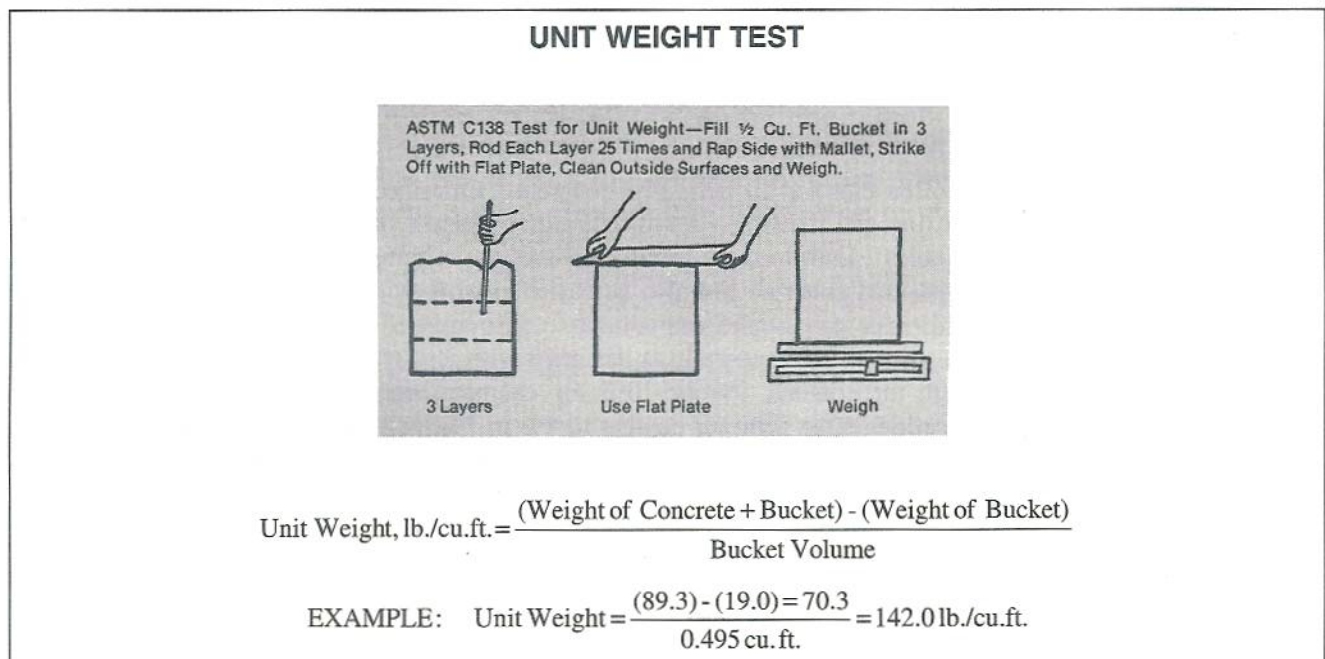
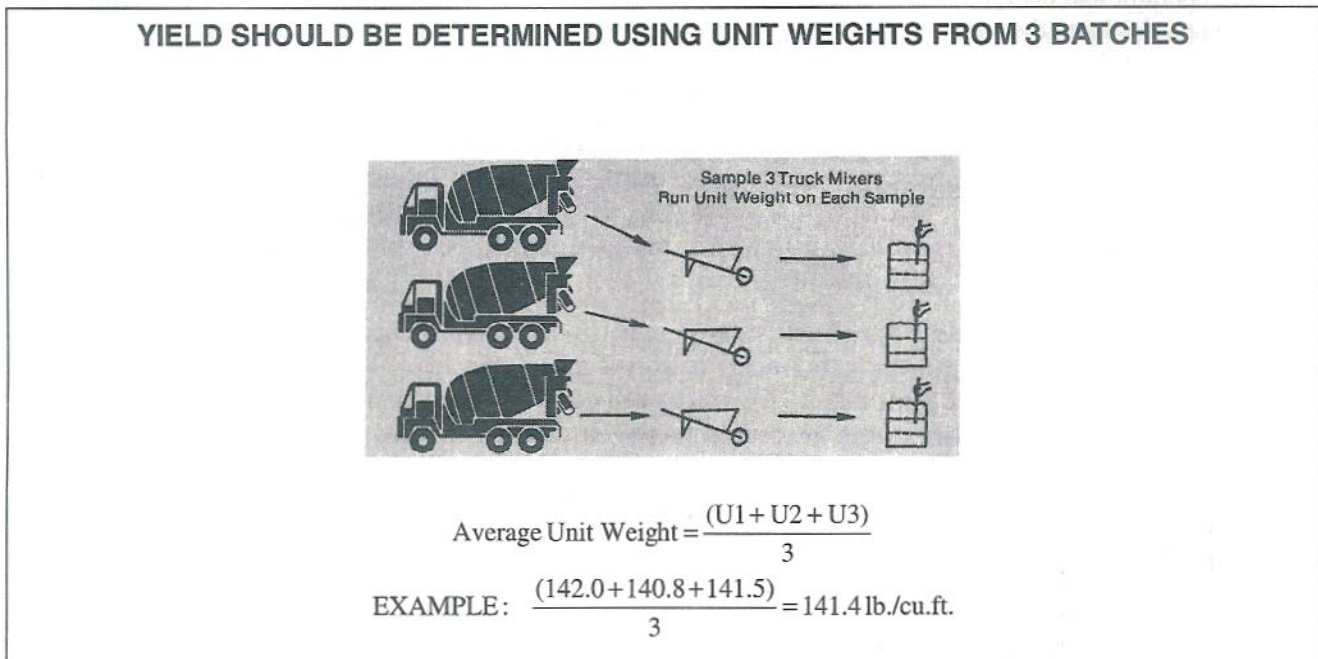

Figure 2-1: Unit Weight Test
Figure 2-2: Determining Yield by Averaging 3 Unit Weight Test Results
6. Use the formulas in Figure 2-1, Table 2-1 and Figure 2-2 to calculate unit weight and yield.
A single unit weight test provides a good spot-check for the yield of a given load of concrete. However, a thorough yield check per ASTM C 94, *Standard Specification for Ready Mixed Concrete*, requires the unit weight to be measured from three different batches of concrete of the same mix design. The average unit weight from the three tests is then used to calculate yield (See Figure 2-2). This approach minimizes the effects of variation, wherein a single, non-representative test could be used to calculate yield of concrete as delivered.